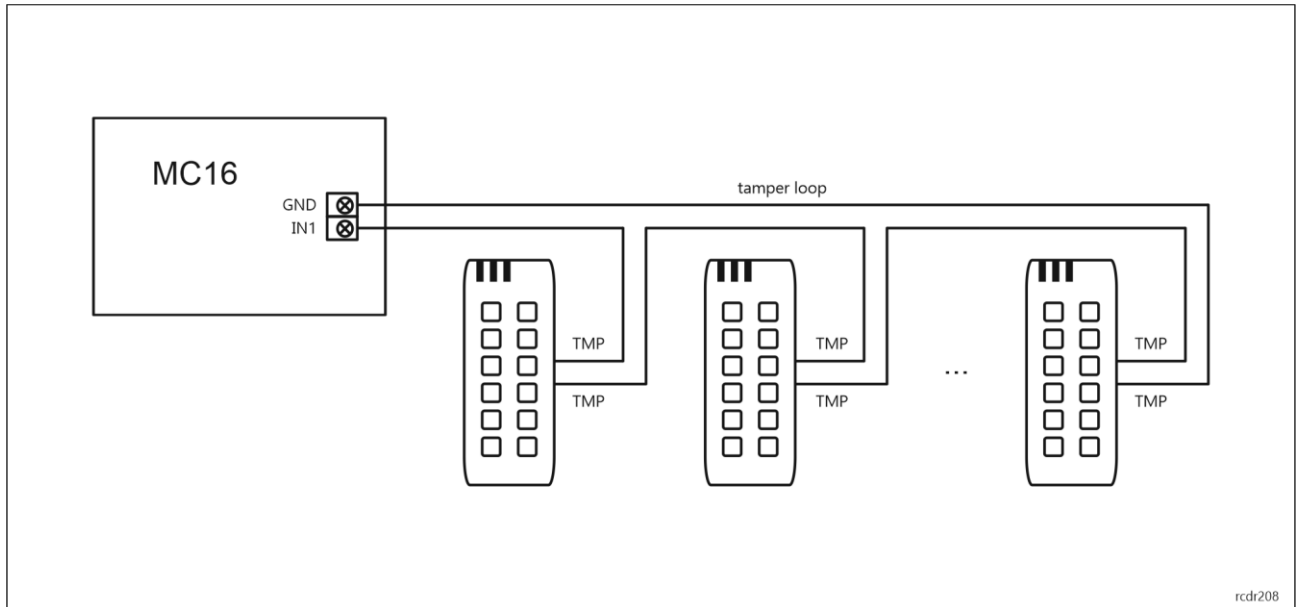
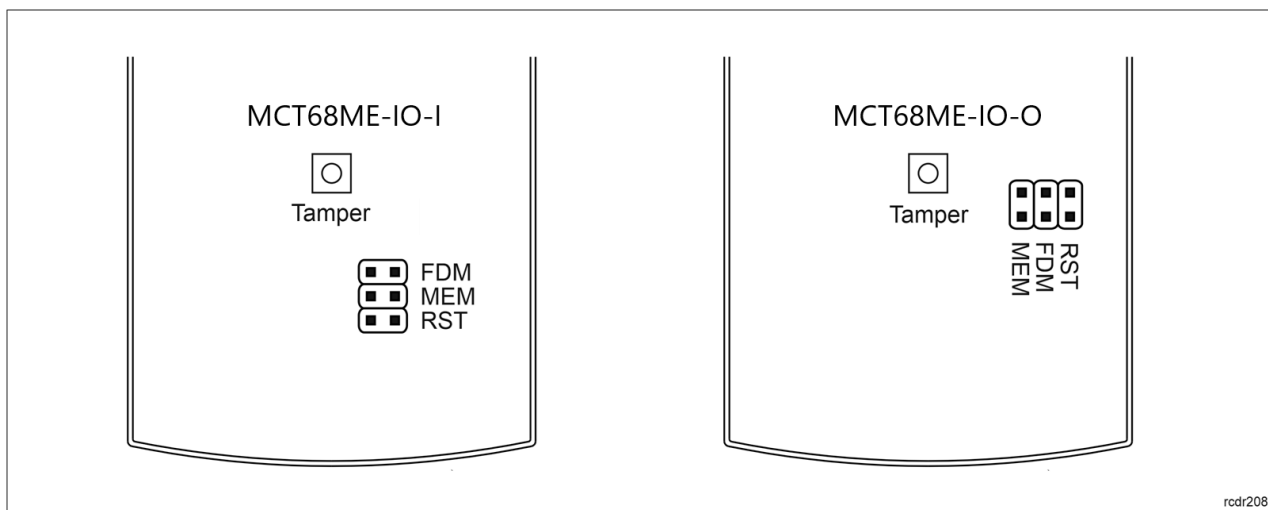

Fig. 3 Tamper loop example
Fig. 4 Programming jumpers
Built-in tamper (sabotage) detector enables detection of unauthorized opening of device's enclosure as well as detachment of the enclosure from wall. The detector is internally connected to the TMP screw terminals. It does not require low level configuration but it is necessary to connect it to controller with wires as in example in fig. 3. It is also essential to mount front panel in such way as the tamper detector (fig. 4) would firmly press the back panel.
- Front panel should be attached in such way as the tamper detector (fig. 4) would firmly press the back panel.
In RACS 5 v2 system the reader can be installed at site without previous configuration. According to AN006 application note, its address and other settings can be configured from VISO v2 management software and during such configuration the access to its service contacts (fig. 4) is not required.
2. Place jumper on MEM contacts (fig. 4)
2. Place jumper on FDM contacts (fig. 4).